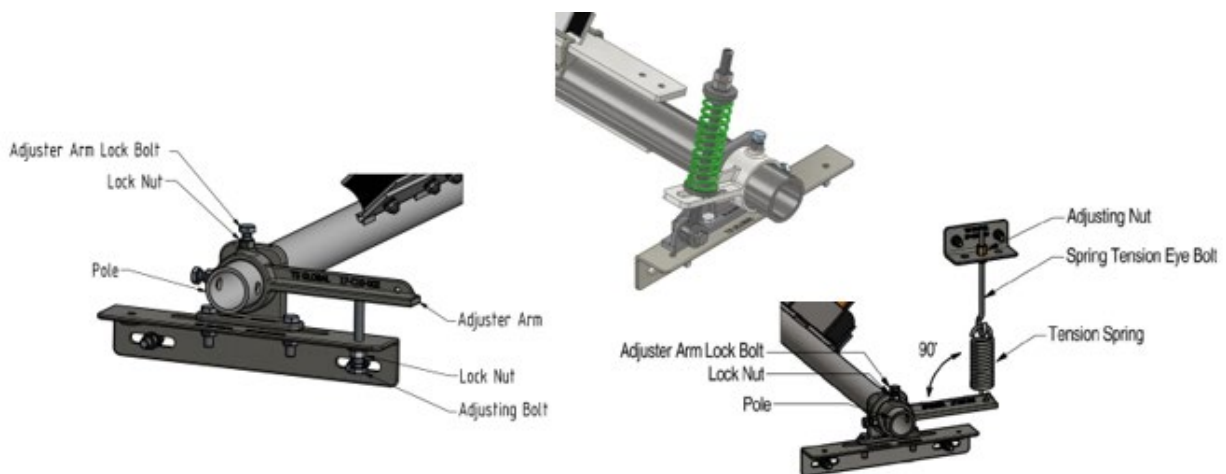

Fig.2a
- Ensure the adjuster arms horizontal and resting on the adjusting bolt as shown in Fig 2a. If spring tension adjuster arms are used follow the procedure in the tensioning section to adjust to correct position and tension.